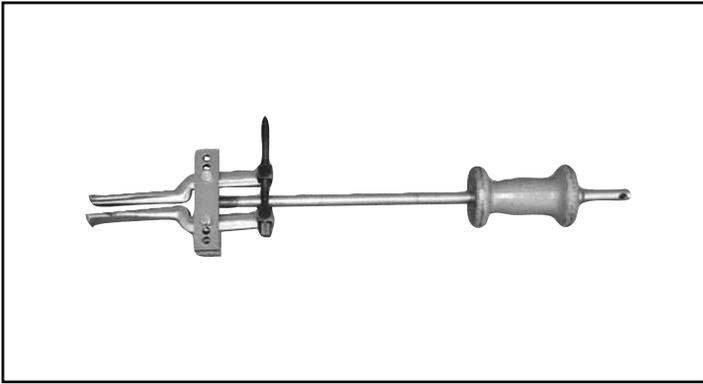

FIGURE 1
- A)** Remove all shaft components from the shaft, (21), (i.e., keys, nuts). To aid in reassembly of the motor, make a "V" shaped set of lines from the endcover to the housing using either paint or a marker. With the shaft facing down, secure the motor in a vise by clamping the housing, (8). Remove the seven bolts, (20), while holding the motor assembly together. Remove the endcover, (18).
- B)** Remove the balance plate, (16), rotor set, (15), and manifold (14). Remove all body seals and discard. (Caution - when removing the balance plate, do not allow the three check balls, (17), to fall out.) (Caution - do not allow the rolls to drop out of the rotor set assembly when removing the assembly from the motor.) Remove drive link, (13), from the motor. Remove the thrust bearing, (12), from the housing. From the front of the housing, gently tap the shaft, (21), upward and remove through the rear of the housing. Inspect the front bearings and seal for wear and damage. Replace as needed.
- C)** Using a slide hammer type bearing puller, (see Figure 1), remove the rear housing bearing, (11). Remove the thrust bearing, (10), and remove the thrust washers, (9). Remove and discard the shaft seal, (4), the back-up seal, (3), and the metal shim, (2).